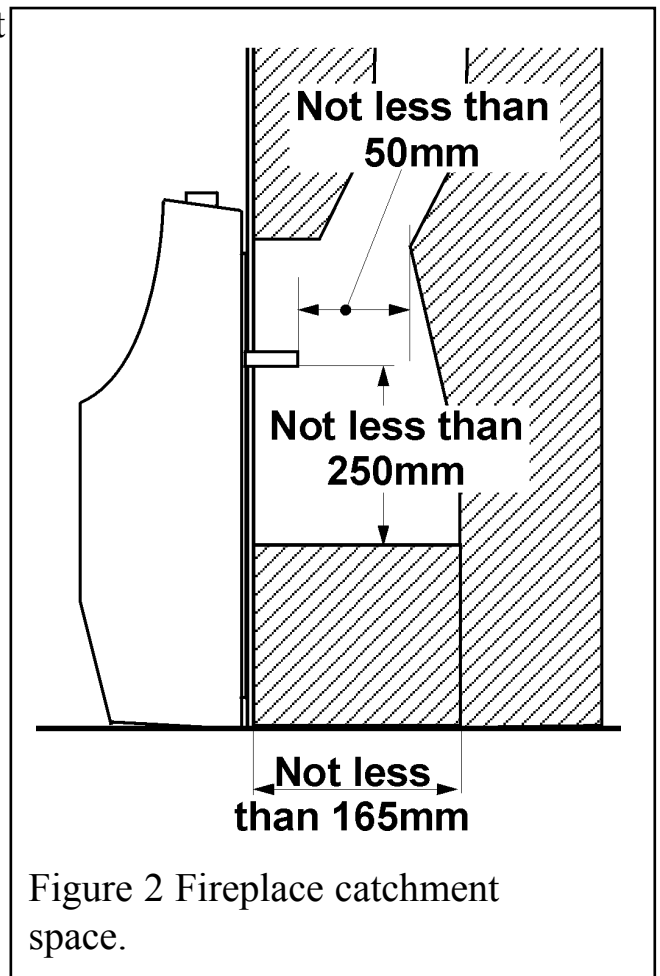

Figure 2 Fireplaces catchment space.
The bottom of the appliance must be at least 50mm above the finished floor covering. See figure 1. This requires the top of the opening to be at least 575 mm above the finished floor covering. Any opening visible below the appliance may be closed in but the depth of the catchment space within the wall opening must be as shown in figure 2.
See figure 2.
5.3.9. If the fire is fitted to a recessed fireplace, an extension flue spigot up to a maximum total length of 125mm may be used. The extension must be a tight fit over the flue spigot and be secured by two self tapping screws. Note the minimum clearance required as shown in figure 2.